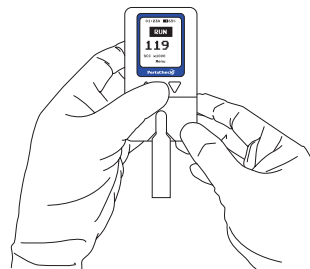

Fig. 4
4. Read the value displayed on the screen (Fig. 4).